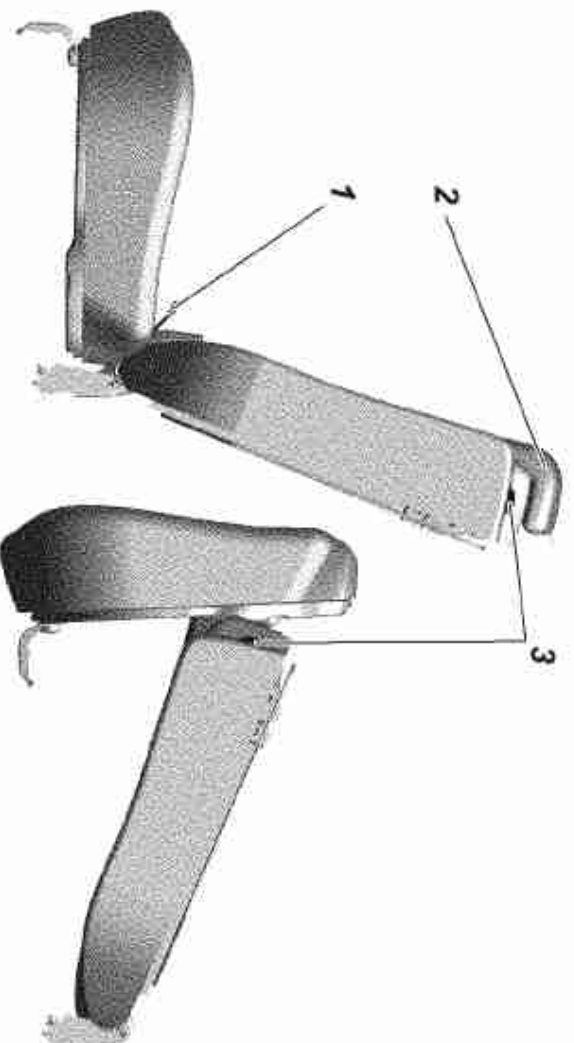

Fig. 3.33. Rear triple seat:
Rear triple seat (Fig. 3.33) consists of pillows and backrests for one and two passengers.
- pull the loop 1 (Fig. 3.33) and set the pillow to the upright position;
- pull lever 3 in the direction of movement of the motor vehicle, release and fold the backrest as shown in the diagram, Fig. 3.33;